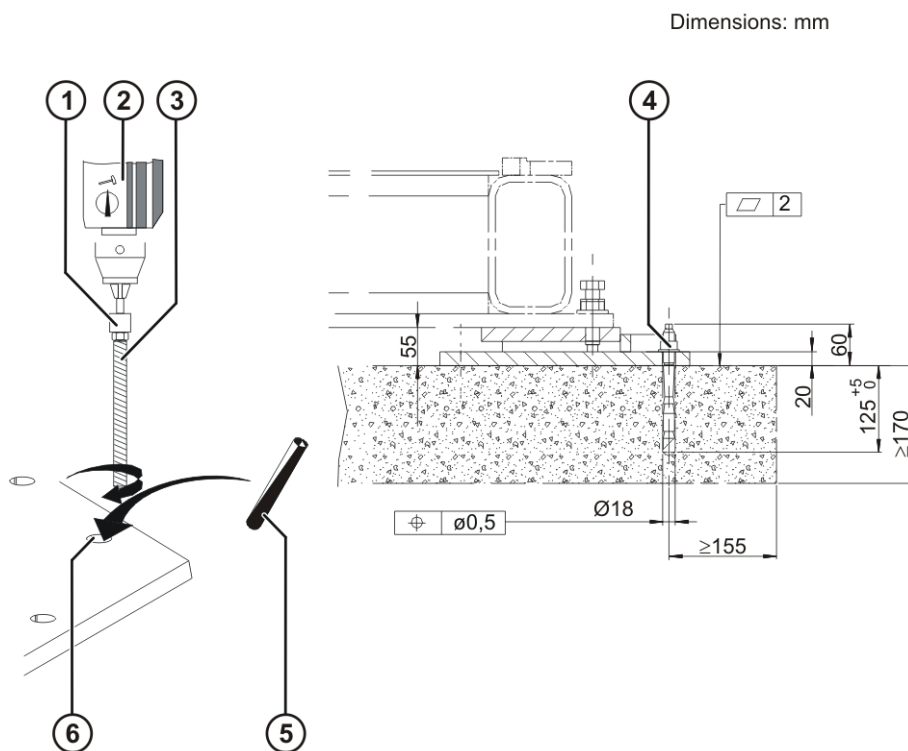

Fig. 8-1: Installing the chemical anchors
3. Drill anchor holes (>>> Fig. 8-1) through the holes of the plates into the foundation.